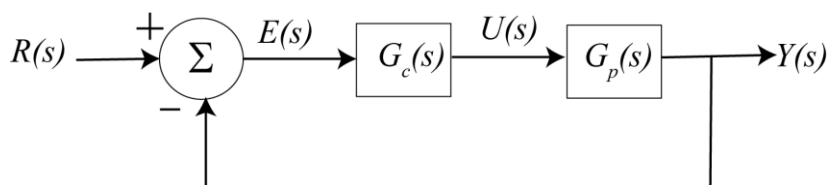

Figure 1: Basic closed loop system with unity feedback
1. Show that the feedback control system represented by the diagram in Figure 1 has the given transfer function $G_o(s) = Y(s)/R(s)$.
When a system is set to a certain value (**setpoint**) and there is no measurement of the output to determine whether it actually achieved the set point, this is called **open loop control**. If you drive with your eyes closed that would be an example of open loop control. Open loop control is not a very good way to design a system unless the system is extremely reliable, predictable with no chance of failures. A **closed loop** control system or **feedback control** is when you use some type of sensor (such as your eyes, thermometer, encoder, speedometer) to determine how far the system is away from the set point (**error**) and use the **controller** to make the adjustments. The controller may be an electronic device, human, biological functions, etc. In these examples, the system being controlled is the **plant** (car speed, car position, body temperature, room temperature). A standard unity feedback control system with input, $R(s)$, output, $Y(s)$, controller, $G_c(s)$ and plant, $G_p(s)$, and error, $E(s)$, is shown in Figure 1.
In order to change the behavior of the plant, we are going to do two things, both of which are depicted in Figure 1. The first of these is to provide some feedback so we can compare the input and output of the system. This difference is called the **error signal** and it is just the difference between the input and the output. In the diagram the error signal is depicted as $E(s)$, and it is the difference between the **reference signal**, $R(s)$ and the output signal, $Y(s)$, $E(s) = R(s) - Y(s)$. In most control systems we want the output to equal the reference signal. The second thing we will do is to include a new system called a **controller**, that we depict by the transfer function, $G_c(s)$, that operates on the error signal and produces a new signal, the **control effort**, $U(s)$, which is the input into the plant. Note that the control effort is **not** the transfer function of the unit step.